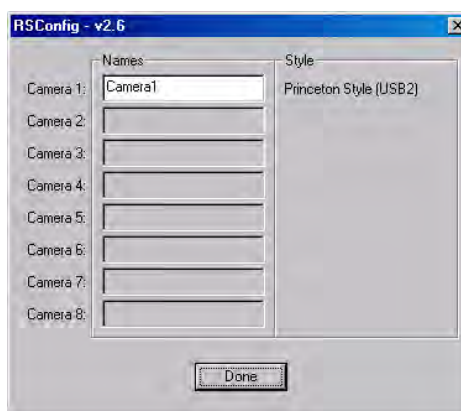

Figure 35. RSConfig dialog box
4. When the RSConfig dialog box (Figure 35) appears, you can change the camera name to one that is more specific or you can keep the default name "Camera1". When you have finished, click on the **Done** button.